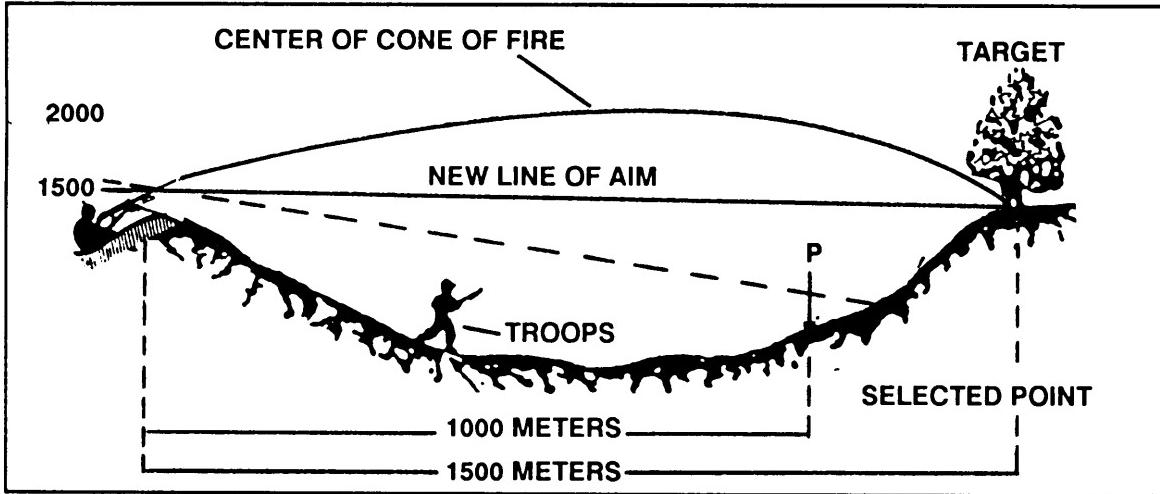

Figure 6-14. Application of leader's rule.
- (2) When the range to the target is greater than 850 meters, overhead fire should be delivered only in an emergency and then only out to a range in which either the tracers or the strike of the bullets can be seen by the gunner. In this situation the leader's rule applies (Figure 6-14).